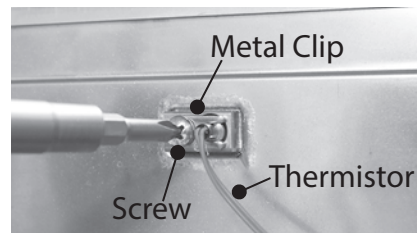

Figure 63 - Exhaust thermistor removal
- 15 Locate the screw securing the exhaust thermistor. See Figure 63. Use a Phillips screwdriver to remove the screw. Place the screw aside in a safe place for reinstallation. Discard metal clip.
- 20 Install the new exhaust thermistor in the water heater. See Figure 63. Secure with the new metal clip supplied in the kit and the screw removed in **Step 15**.